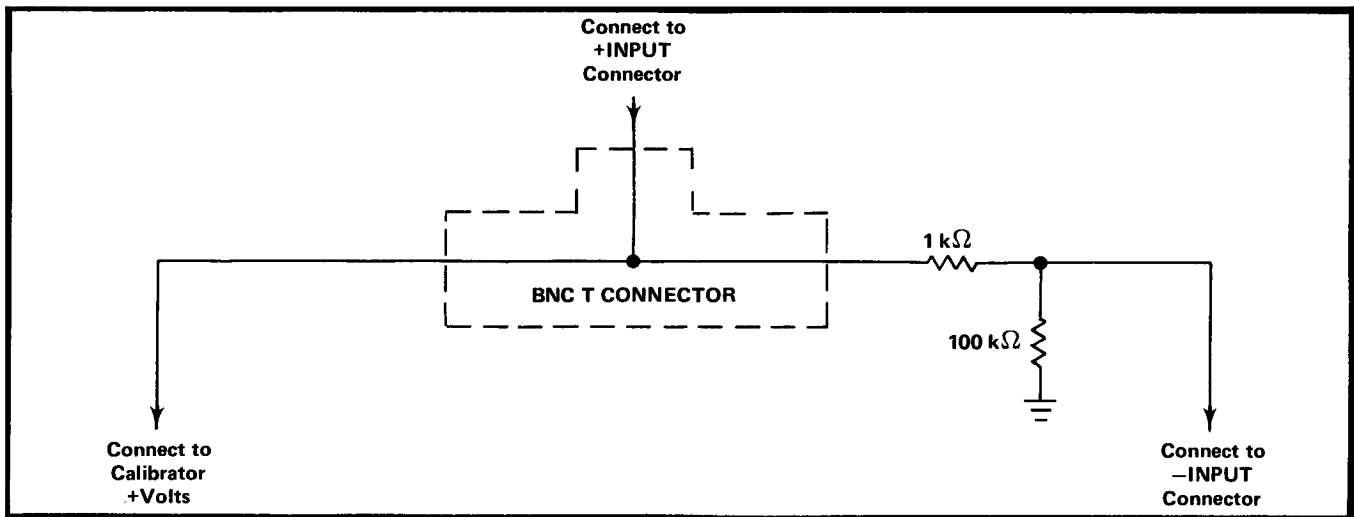

Fig. 2-2. Voltage divider for Example 4.
3. Build and connect a voltage divider to the BNC T as illustrated in Fig. 2-2.